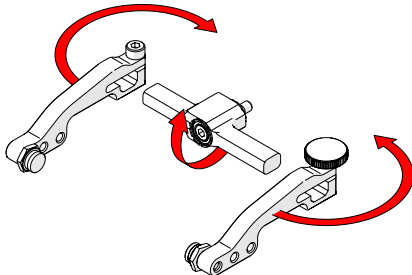

Fig. 94 - Flip yoke and reverse arms
3. Flip the yoke 180° and reverse the probe holder arms (*Fig. 94*).